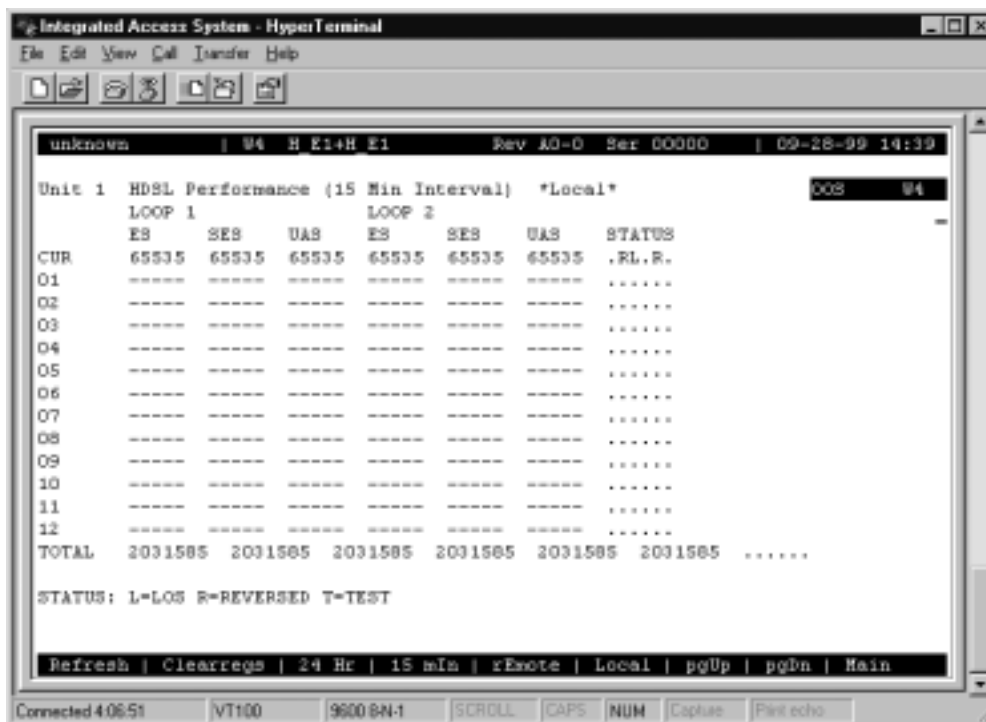

Figure 7-29. Typical Adtran E1/HDSL Performance Data Screen (local 15-minute interval)
Figure 7-29 shows the Adtran E1/HDSL Performance Data Screen for the WAN-U card. The screen will display statistics for either Unit 1 (HDSL module 1) or Unit 2 (HDSL module 2), depending on which one you choose in the HDSL Screen.
Figure 7-29 shows the number of Errored Seconds (ES), Severely Errored Seconds (SES), and Unavailable Seconds (UAS) in loops 1 and 2 (local or remote), in either 15-minute or 24-hour increments. This allows for four different possible displays:
In 15-minute intervals, 12 historical time periods are shown on the left side of the screen (Figure 7-29). By pressing “d” (**pgDn**) in that screen, you can view historical time periods 13 through 24. Press “d” again to display historical time periods 25 through 32. These periods record the activity for the past thirty-two 15-minute periods, thus providing eight hours of historical data.